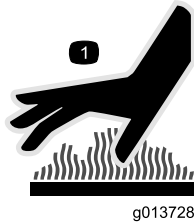

Figure 3
- Never touch a hot engine or muffler (Figure 3).